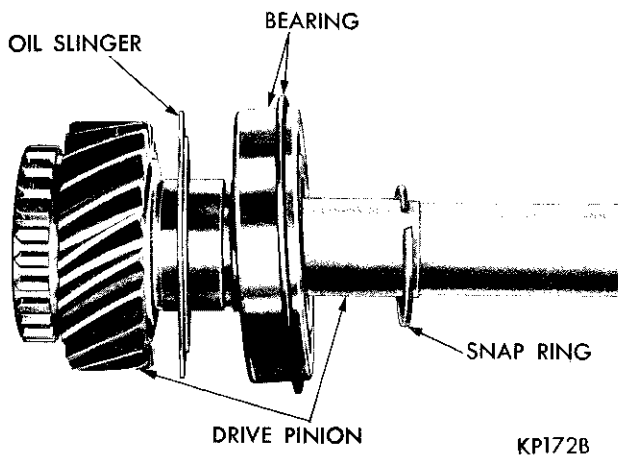

Fig. 19—Drive Pinion Assembly
- (3) Remove the snap ring (Fig. 19), which locks the main drive pinion bearing on the pinion shaft, using snap ring pliers. Remove the pinion bearing washer, then carefully press the pinion shaft out of the bearing, using an arbor press. Remove the oil slinger.
- (4) Remove snap ring and 15 bearing rollers from the cavity in the end of the drive pinion.
(1) Slide the oil slinger (if removed) over the pinion shaft and down against the gear, (Fig. 19).
(2) Slide the bearing over the pinion shaft (snap ring groove away from the gear end), then seat on the shaft, using an arbor press.
(3) Secure the bearing and washer with the selected thickness snap ring. Four snap rings are available to eliminate end play (same thickness as clutch gear and mainshaft snap rings).